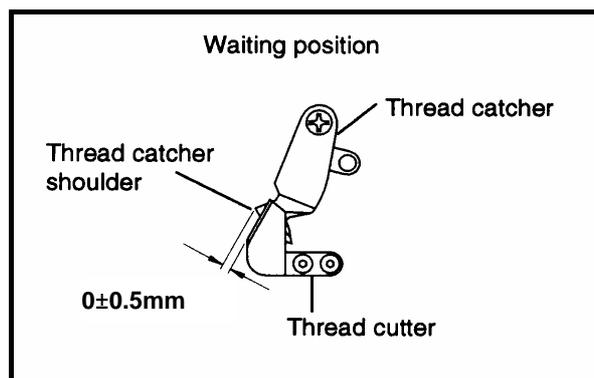
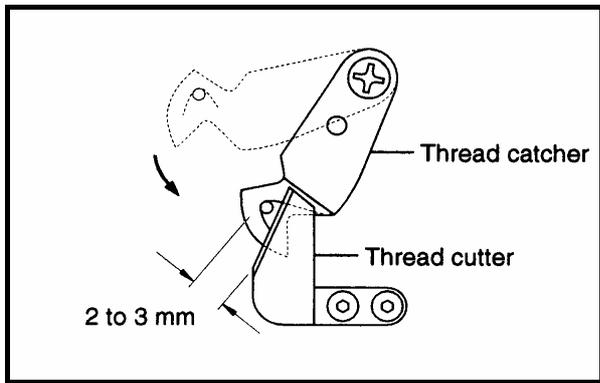

FIG.3
FIG.4
- (1) When the thread catcher is in the standby position, the dimension between the shoulder and the thread cutter must be $0 \pm 0.5\text{mm}$. (Fig.3) [Please refer to 『 “ 3-3 standby position of thread catcher” 』 on page 24]
- (2) Remove the bed cover A and remove the connecting plate from the pin of the thread trimming lever.
- (3) Move the thread catcher by hand and check the blade pressure of the thread catcher and the thread cutter. (Fig.4) [Please refer to 『 “ 3-4 Blade pressure” 』 on page 25]